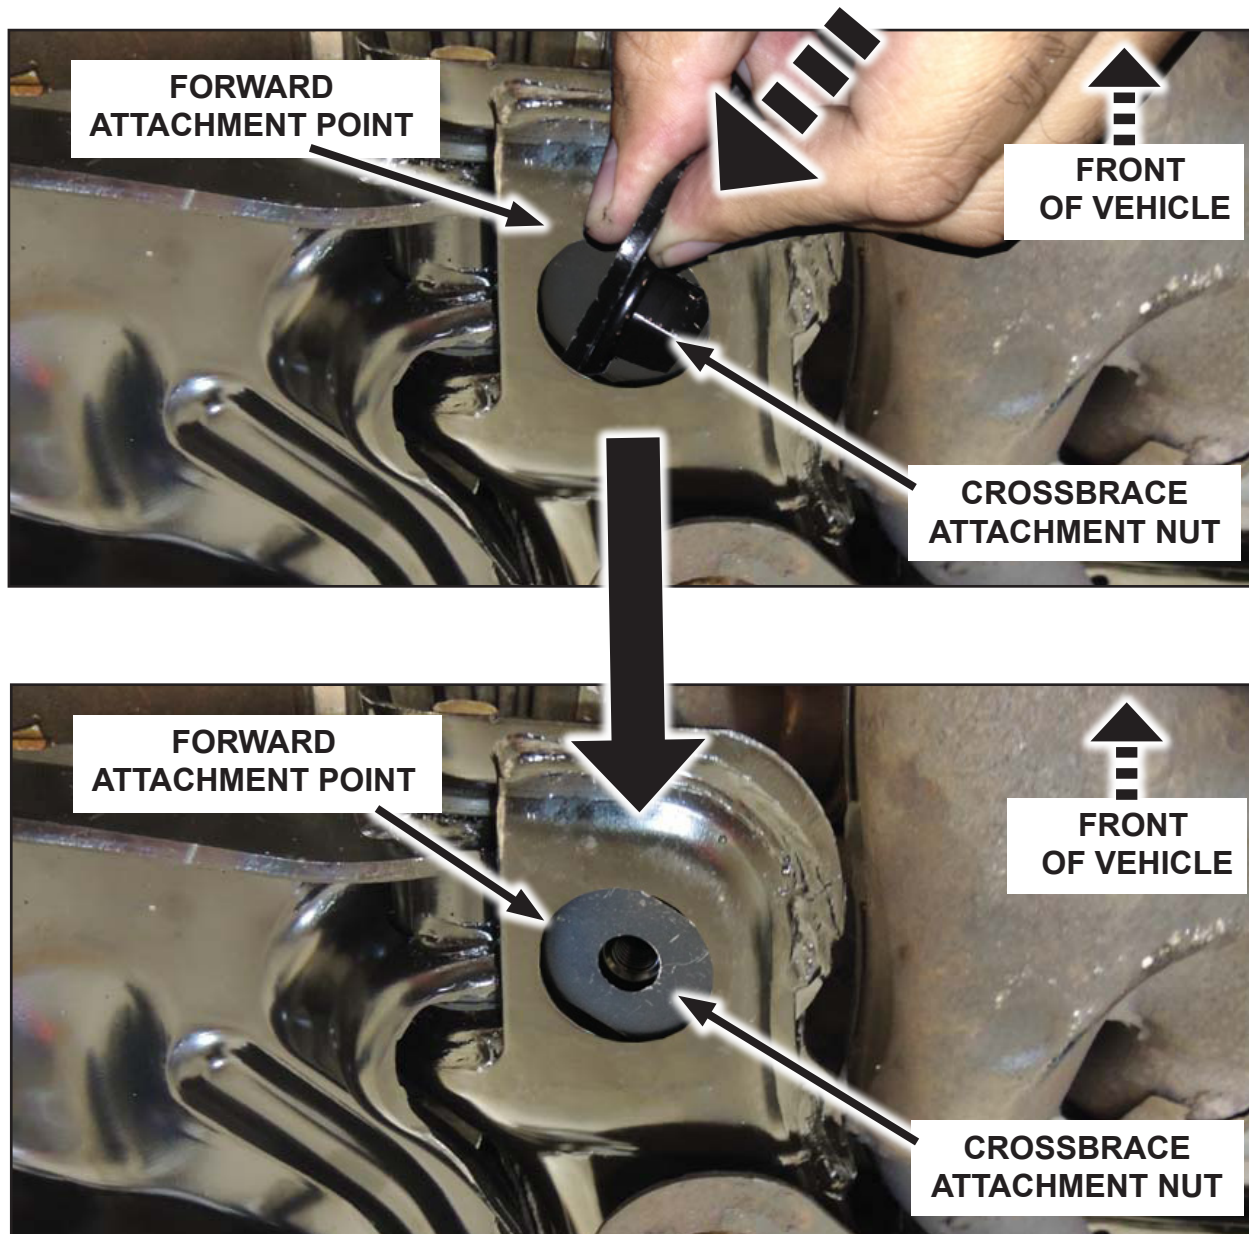

FIGURE 5
2. Install the two crossbrace attachment nuts into the RH and LH forward attachment points on the subframe. See Figure 5.